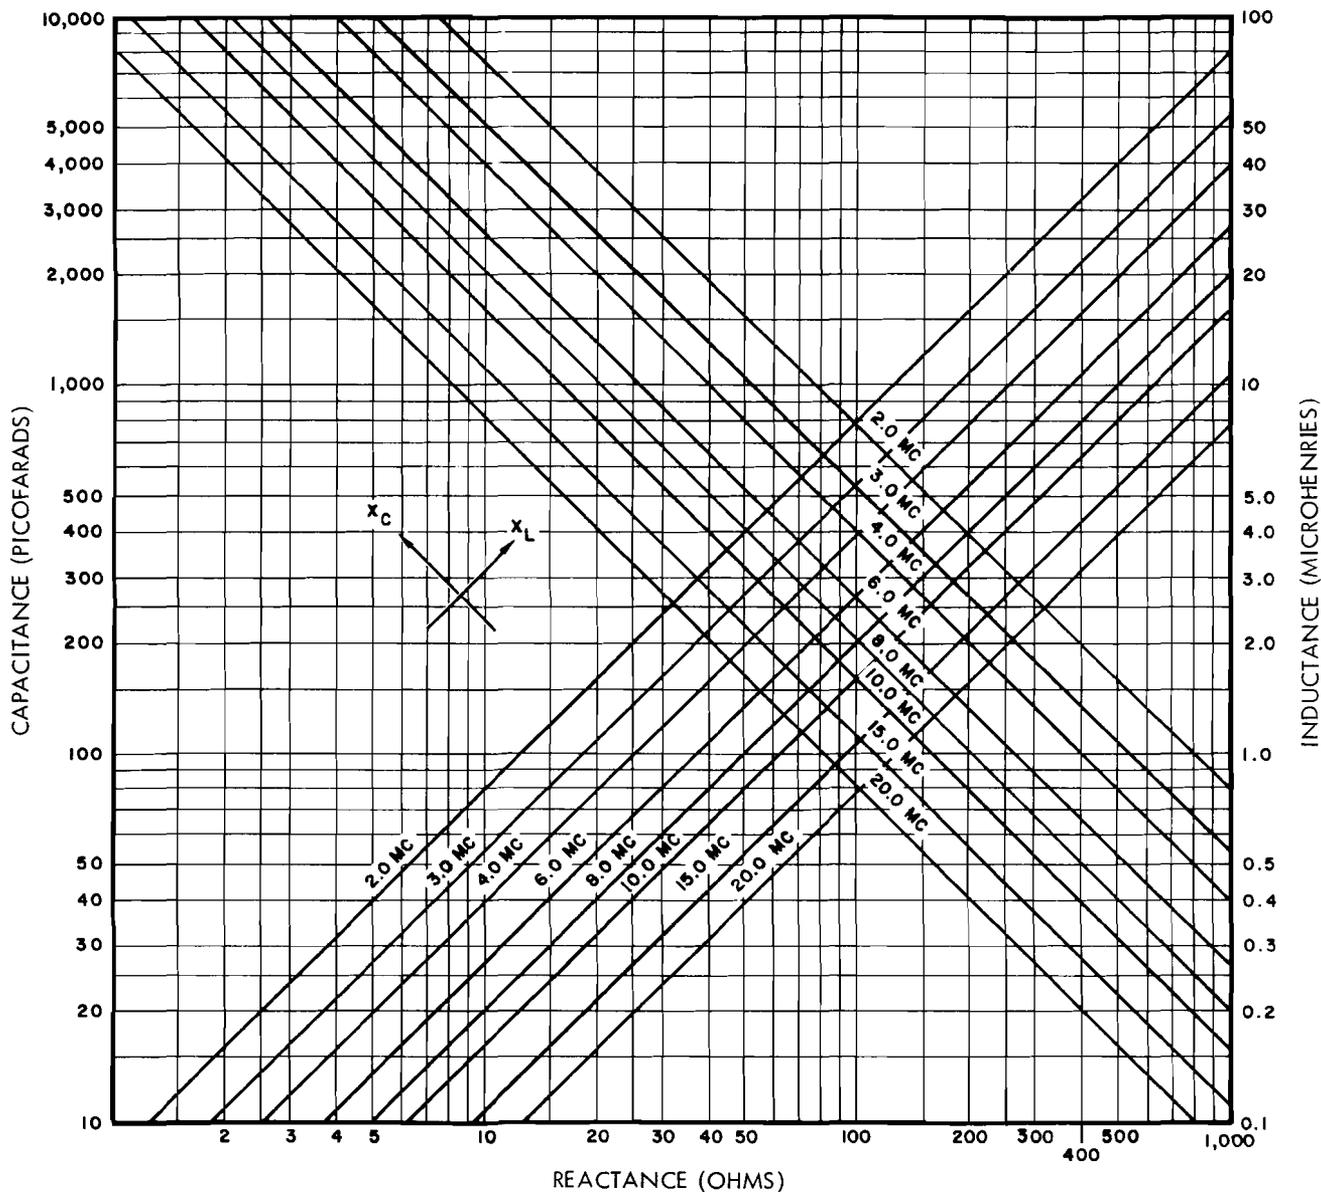

Figure 4-16. Antenna-Coupler Reactance Chart
g. Determine the values of L and C required from the reactance chart (Figure 4-16).
- e. Refer to the reactance chart (Figure 4-16) and find that the value of inductance for  $X_S = 270$  at 5 Mc = 9  $\mu$ h.